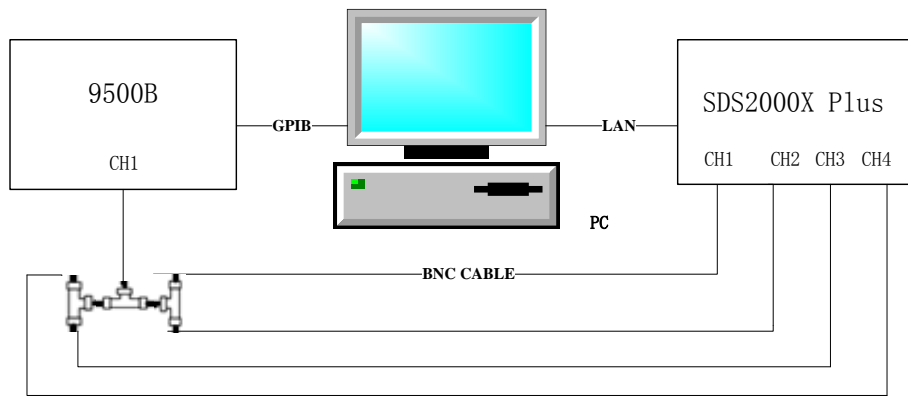

Figure 7 Connecting test instruments for DCG\Offset
2. Connect all channels of the oscilloscope to the 9500B as shown in Figure 7.
2. Connect all channels of the oscilloscope to 9500B as shown in Figure 7.